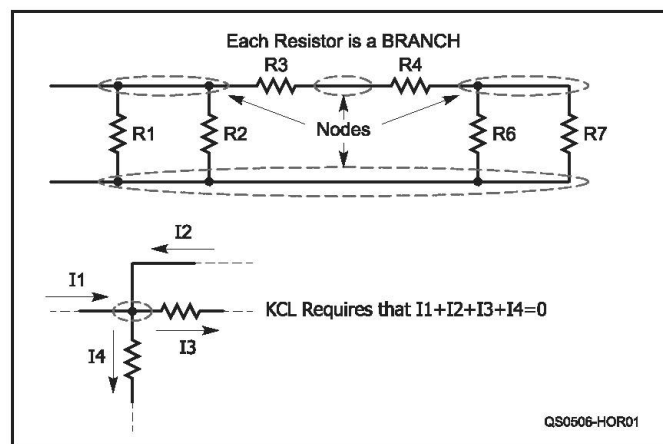

Figure 1—KCL requires the sum of currents at a node equal zero.
**Figure 1 — The output power from an Amateur Radio transmitter is 10 watts. After making some adjustments to the transmitter tuning, you measure the power again. Now you find the power has increased to 20 watts. The text describes how to calculate the decibel increase that occurred.**
We measure the transmitter output power at an Amateur Radio station like the one shown in **Figure 1**, and find that it is 10 W. Use this power as a reference power for the station. After making some adjustments to the circuit, we measure the transmitter output power again. This time we find that the output power has increased to 20 W. What is the power increase, in dB? Equation 2 will help us answer this question.
Kirchhoff's Current Law is the easiest to understand and it is applied at nodes, where currents combine, as shown in Figure 1. Even the simple connection between R3 and R4 is a two-branch node. (Don't confuse schematic connection "dots" with nodes because there may be more than one dot for a single node as shown at the bottom of the figure.)
**Figure 1** — Coulomb's law describes the force,  $F$ , between two electrically charged particles ( $q_1$  and  $q_2$ ). The force is proportionally weaker with the square of the distance between the particles,  $r$ . If the charges have the same polarity, the force is positive and they repel each other. If they are oppositely charged, the force is negative and attracts the particles together.
The *IEEE* article begins its journey to wireless with Charles-Augustin Coulomb's determination in 1785 that electric forces varied proportionately to the inverse square of distance — now known as Coulomb's law (Equation 1) as illustrated in Figure 1.